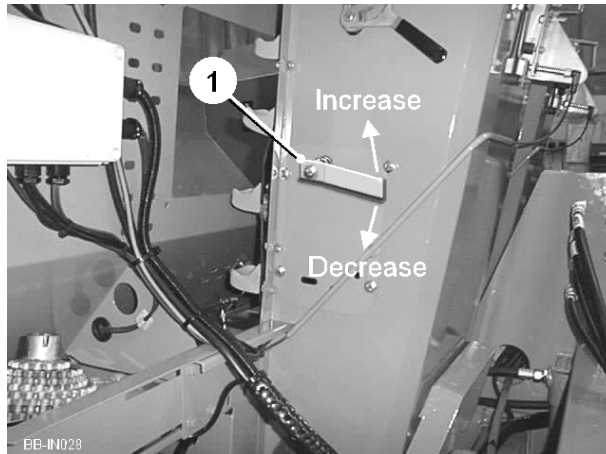

Fig 19
On manually adjusted agitators, the handles (item 1, figure 19) fitted to the side of each tunnel are used increase/decrease the amount of agitation. Raising the handle will increase agitation while lowering it will decrease agitation. The stronger the agitation the easier the excess potatoes will fall from the cups.